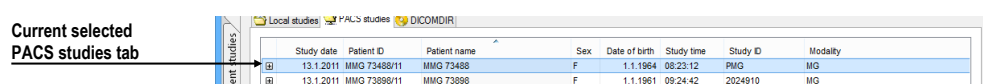

Figure 374 – Opened patient study from PACS
- Finding and opening a required study stored in a remote DICOM device (see Figure 374) by taking the following steps: